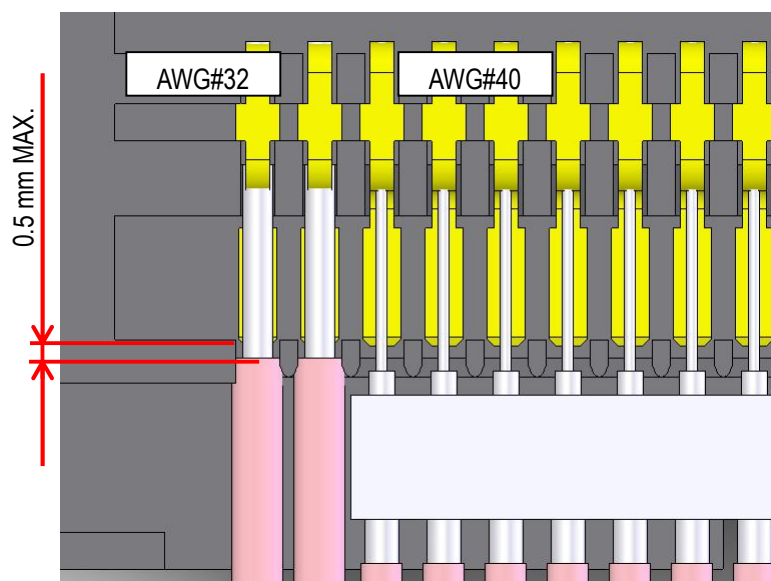

Fig.3 AWG#32, #40
- ④ Center-conductors are soldered with pulse heater. See Fig .3 of soldering condition.